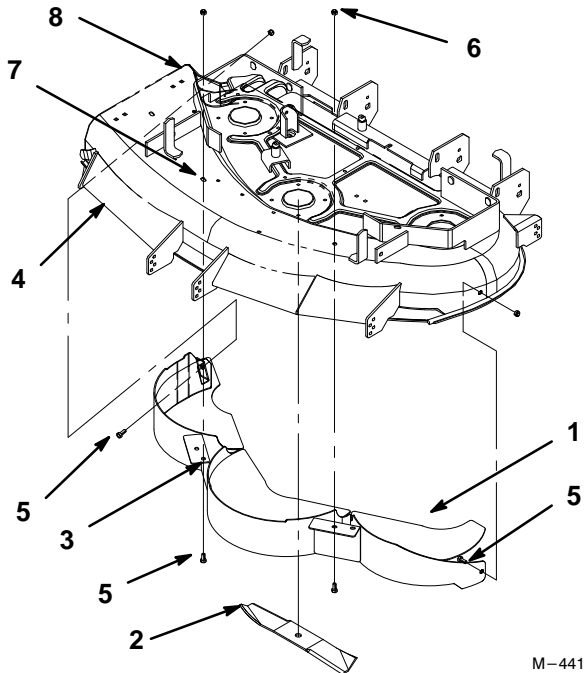

Figure 1
Note: There is one hole that is already drilled for installing the baffle. This hole is filled by a short bolt and nut. Remove this nut and bolt and save for future use (Fig. 1 and 2).
2. Install a bolt and nut into the one pre-drilled hole (Fig. 1 and 2).
Note: When installing bolt into pre-drilled hole, notice which hole it is installed through the baffle (Fig. 1).
3. Install new mulching blades after the baffle is in place and without anti-scalp cups (Fig. 1).
IMPORTANT: The sail part of the blades (i.e., the turned up section) must face the inside of the mower (Fig. 1).
7. Drill (3) 11/32" holes at the marked locations in the mower.
8. Install and tighten all mounting hardware securely (Fig. 1 and 2).